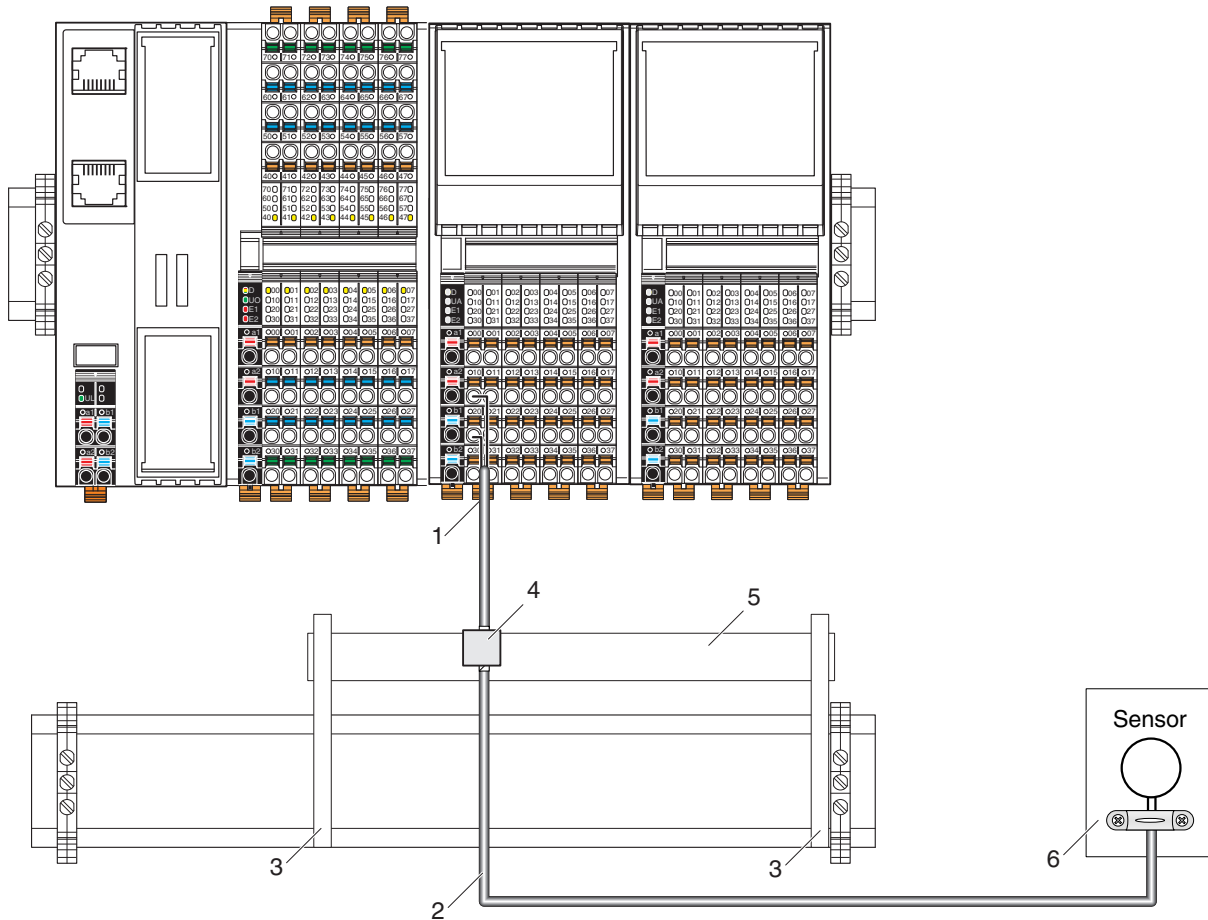
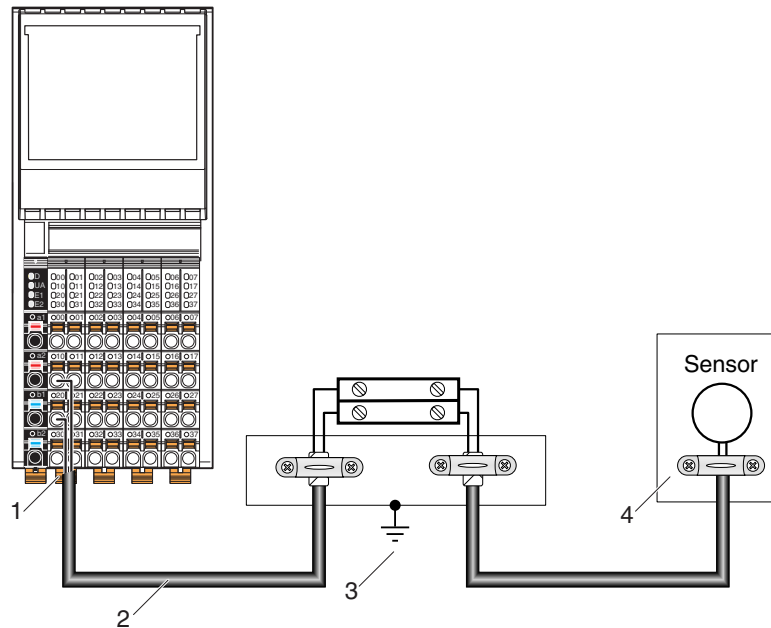

Figure 9-9 Connecting the shielding to a busbar
Figure 9-10 Integration of analog shielding in a concept with central equipotential bonding at the control cabinet entry
- Connect the shield via a shield bus (see Figure 9-9).
- As a rule, shielding must only be connected directly to the PE potential on one side. This is to prevent any occurrence of equipotential bonding currents via the shielding (see Figure 9-9 and Figure 9-10).
- If necessary, integrate the shielding concept for analog I/O cables in the system concept. For example, it is advisable to use a central FE shield connection at the control cabinet entry (see Figure 9-10).